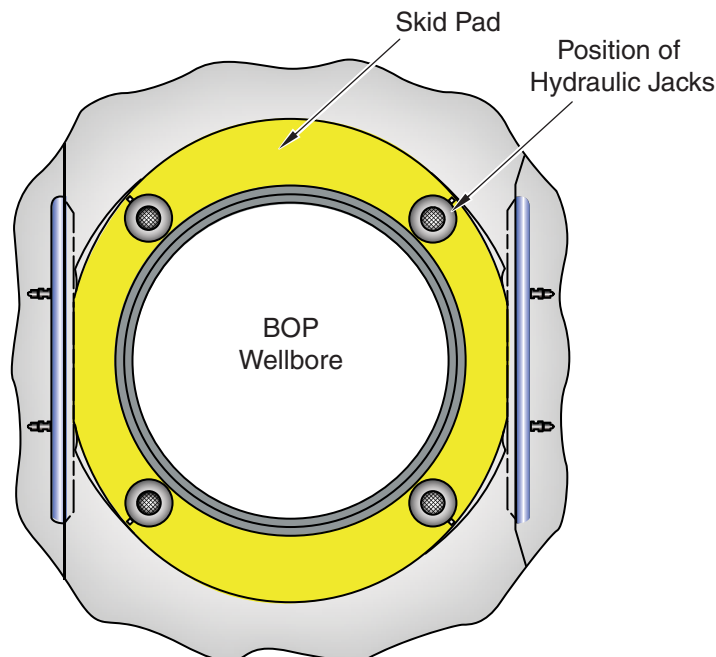

Figure 5-2. Location of Hydraulic Jacks on Skid Plate
3. Install four hydraulic jacks in the four corners of the cavity (see Figure 5-2). Use pieces of hard wood or other suitable material under the head of the jacks to prevent mechanical damage to the seat sealing surfaces.